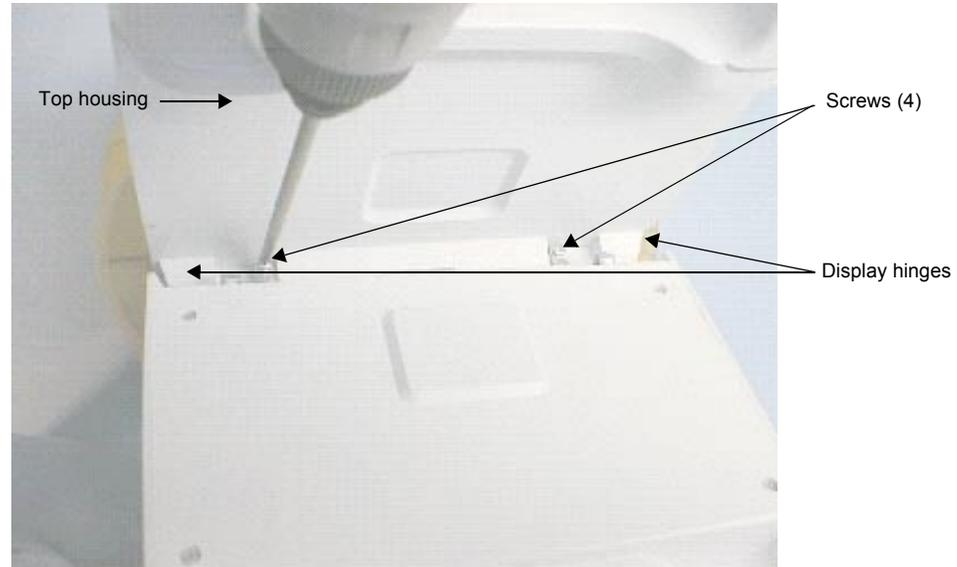

Figure 7.3 Removing the Display Subassembly
- 8 Remove the four screws that secure the Display Subassembly hinges to the top housing with a #1 Phillips screwdriver (Figure 7.3).
2 Secure the four screws on the replacement Display Subassembly hinges to the top housing with a #1 Phillips screwdriver (Figure 7.3). Torque screws to 6.1 in./lb. (0.7 newton meter).